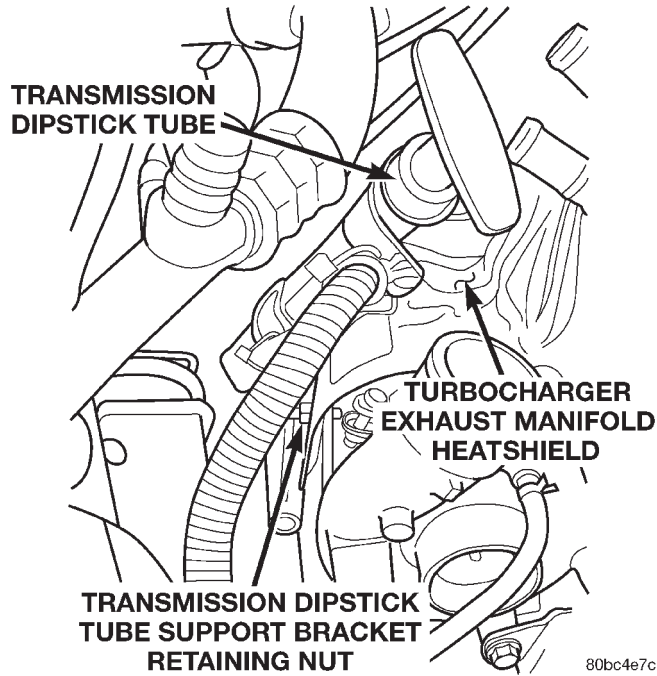

Fig. 42 Transmission Dipstick Tube Support Bracket
(13) Install the exhaust manifold heatshield. Torque bolts to 11 N·m (97 in. lbs.).
(14) Install the transmission dipstick tube support bracket retaining nut on the turbocharger heatshield (Fig. 42). Torque the nut to 20 N·m (177 in. lbs.).